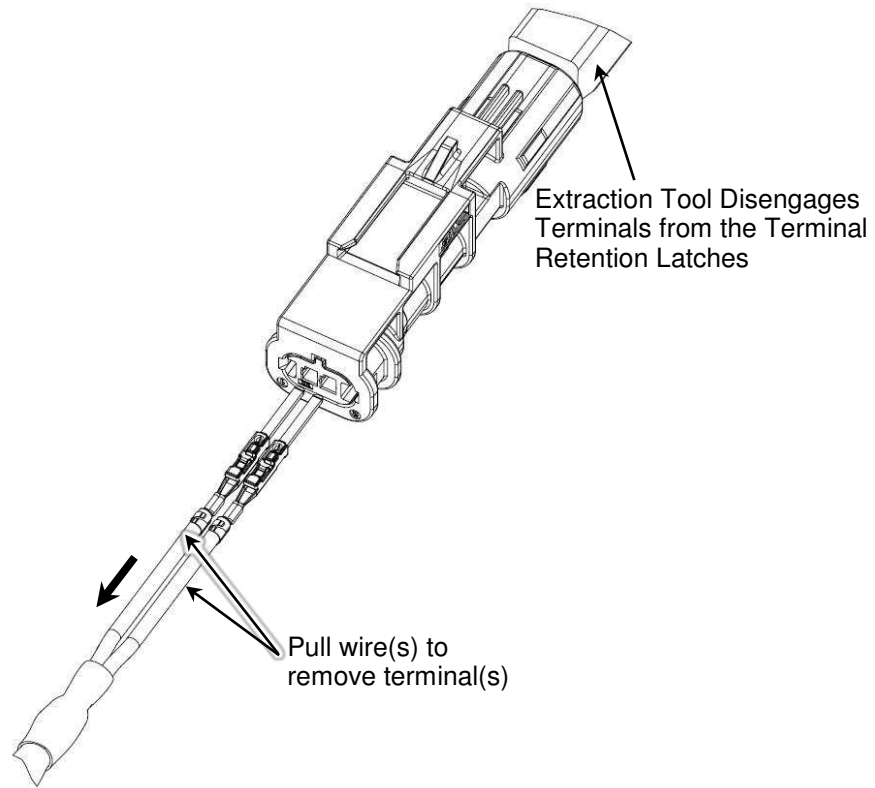

Figure 10
- b. When the extraction tool is properly located, gently move the tool handle downward until the Terminal Retention Latches are pried upward. Continue to pull gently on the wires to completely remove the wire assembly from the connector housing (see Figure 10).